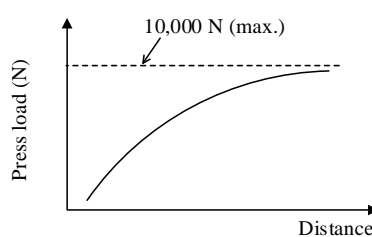

Figure 11 Maximum Press Load
- Maximum press load: $\leq 10,000 \text{ N}$ (See Figure 11)